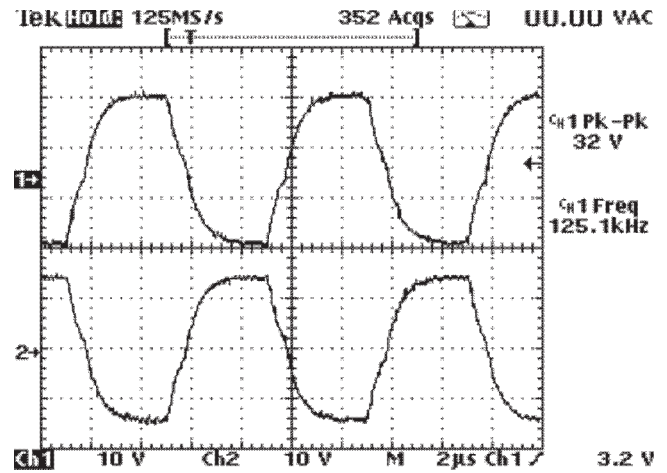

Figure 1.13. Proper IGBT drive signals (with chassis ground reference)
- IGBT drive**—The service fixture allows you to use an oscilloscope to check the drive signals to the gates of the power supply IGBTs, Q68 and Q69. Figure 1.13 shows what the signals should look like. For more details on the IGBT drive waveforms, please see the *Troubleshooting Serious Failures* section in Chapter 3.